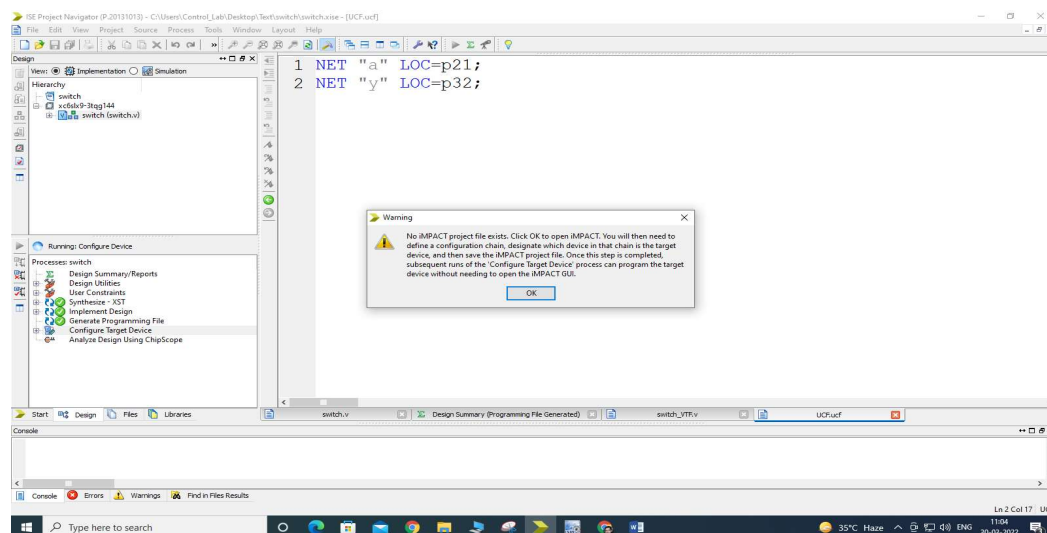

Fig 1.31
35. Double click on the **Configure target device**, a popup windows will open and then click on **OK** (Fig 1.31).